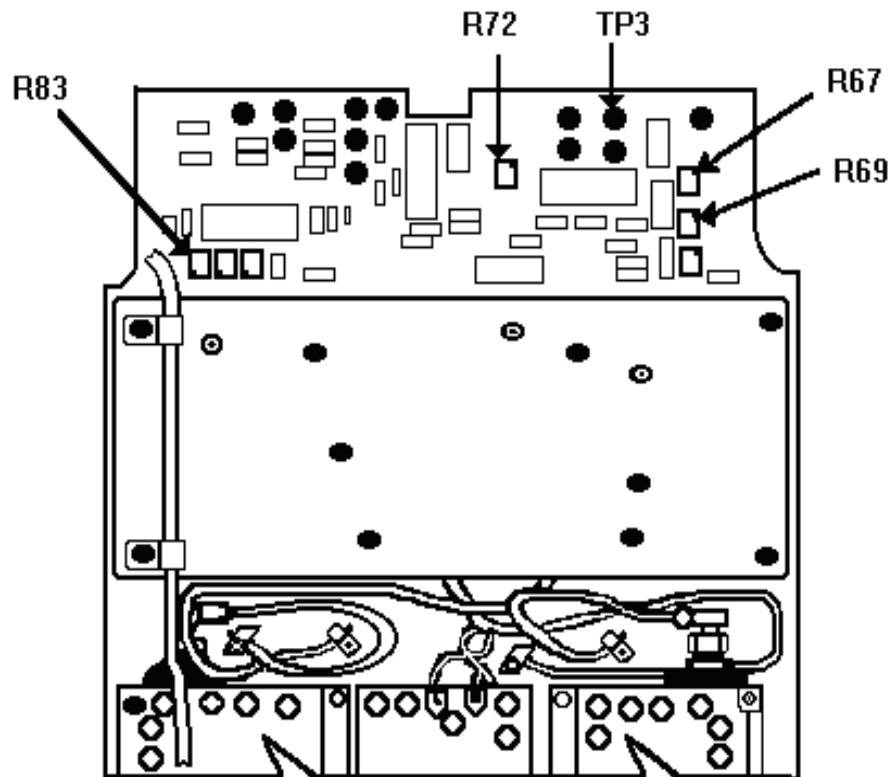

Figure. 13. Receiver card layout.
(13) If RF power output level of the radar test set (at the just solid waveform point) including insertion loss of circulator and cable, is not between 2 to 4 dBm greater than (8) above, perform **b** (3) and (4) below.
(14) Remove radar test set oscilloscope test probe from TJ 29 of control box and connect to TP3 (fig. 13) of the receiver card.
(1) Adjust radar test set RF power output to include insertion loss of circulator and cable values for a level as close to -24 dBm as possible at TI **SUM** connector input.
(2) Adjust R67 (fig. 13) until waveform (fig. 6, inset H) is at the just solid point.
(3) Adjust radar test set RF power output to include insertion loss of circulator and cable values for a level as close to -21 dBm as possible at TI **SUM** connector input.
(4) Adjust R69 (fig. 13) until waveform (fig. 6, inset I) is at the just solid point.
(5) Adjust radar test set RF power output to include insertion loss of circulator and cable values for a level as close to - 11 dBm as possible at TI **SUM** connector input.
(6) Adjust R72 (fig. 13) until waveform (fig. 6, inset J) is at the just solid point.
(1) Adjust radar test set **MAIN FREQ** (menu 10) to **1087 MHz**.
(2) Adjust R83 (fig. 13) until pulse has just appeared on radar test set oscilloscope display (R).